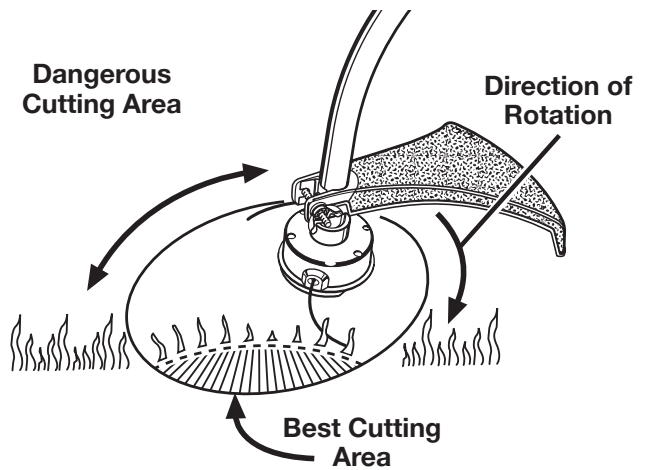

Figure 18
See Figures 18 and 19.
2. The curved shaft trimmer cuts when passing the unit from right to left. The straight shaft trimmer cuts when passing the unit from left to right. This will avoid throwing debris at the operator. Avoid cutting in the dangerous area shown in figures 18 and 19.